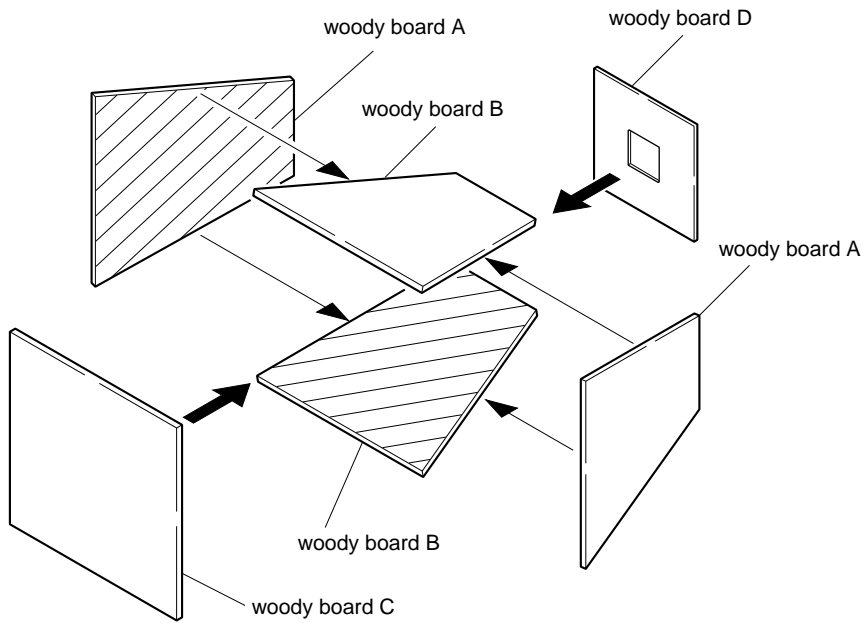

Fig. 6-1-9
- 4) Assemble so that the black sides and the background paper side of woody board A, B, C and D are internal. (Fig. 6-1-9)